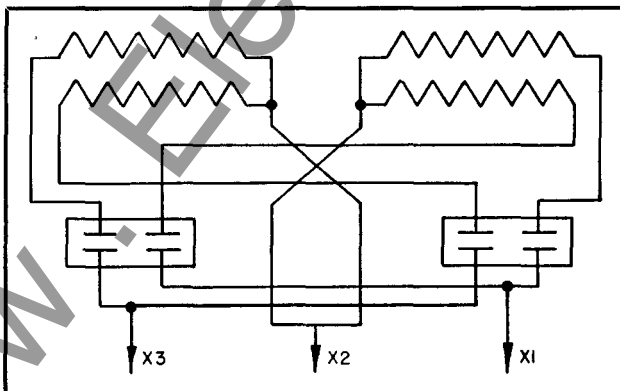

FIG. 5. Low-Voltage Connections of "CSP" Transformer With Two Breakers.
**Single-Phase "CSP" or "CP" Transformers With Two Breakers.** In these transformers, the breakers are interconnected, as shown in Fig. 5, so that one pole of each is in parallel with the corresponding pole of the other. The two breakers may be tested simultaneously, following the same procedure as in the case of a single breaker, except to use twice the test current specified in Table 1. To test them separately, one breaker may be opened manually and the other tested exactly as if it were the only breaker in the transformer.